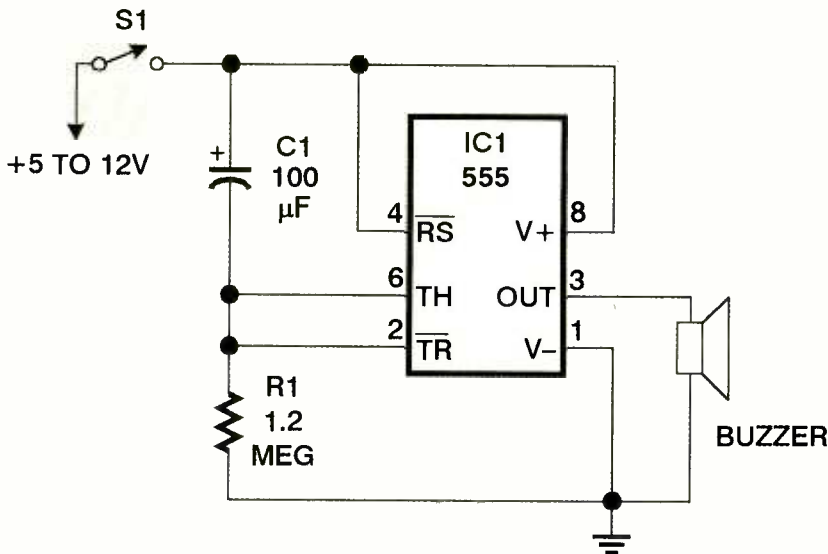

FIG. 3—HERE’S HOW TO CONFIGURE A 555 timer IC to sound a buzzer after a two-minute delay. Different delays can be set by changing the values for R1 and C1.
**A** Figure 3 shows a circuit that will do the trick. When power is turned on, there's a very brief voltage spike at the output that won't affect your buzzer; then the output stays low for two minutes, goes high, and stays high.